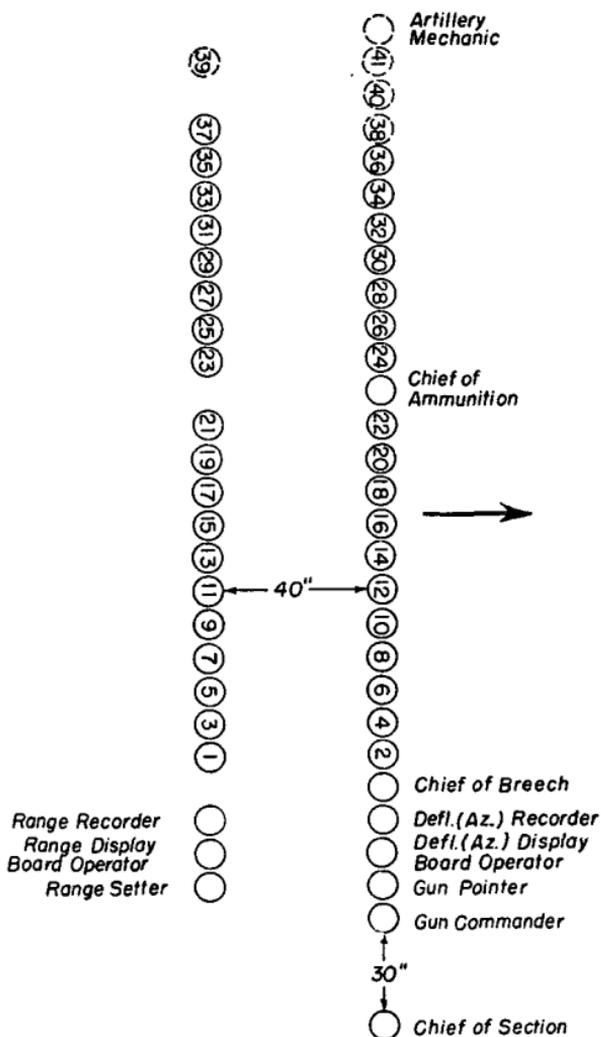

FIGURE 1.—Formation of gun section.
(2) Under peace strength organization, the squad (16 enlisted men) consists of the chief of ammunition and 15 cannoneers, numbered from 23 to 37, inclusive.
■ 6. FORMATION.—Each section assembles in two ranks with 4 inches between files and 40 inches between ranks. The post of the chief of section is in the front rank, 1 pace to the right of his section. The artillery mechanics, who are members of the maintenance section, normally form with the firing section and take post in the front rank on the left of the first and last gun sections. (See fig. 1.)